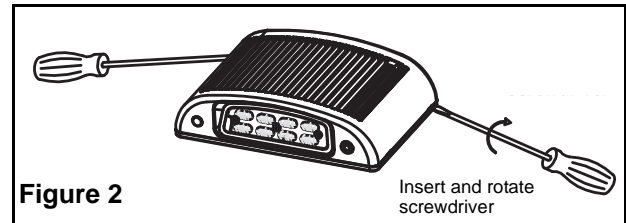

Figure 2
1. Using a flat head screwdriver, insert the blade into the two slots and rotate to remove the back plate (see figure 2).